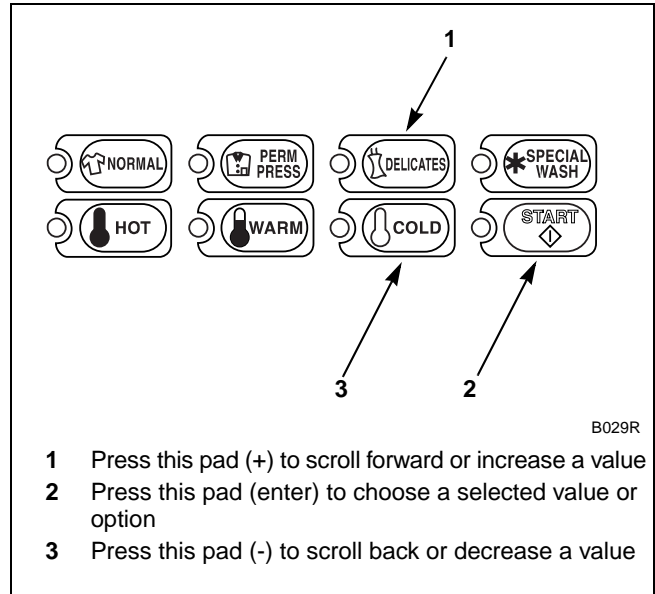

Figure 167
5. Press the DELICATES (+) or the COLD (-) keypad to increase or decrease the current number of minutes displayed in the VFD to the desired number of minutes. Refer to *Figure 167*.
**NOTE: The Delicates Spin Extract Time can be set from zero (0) to 15 minutes.**